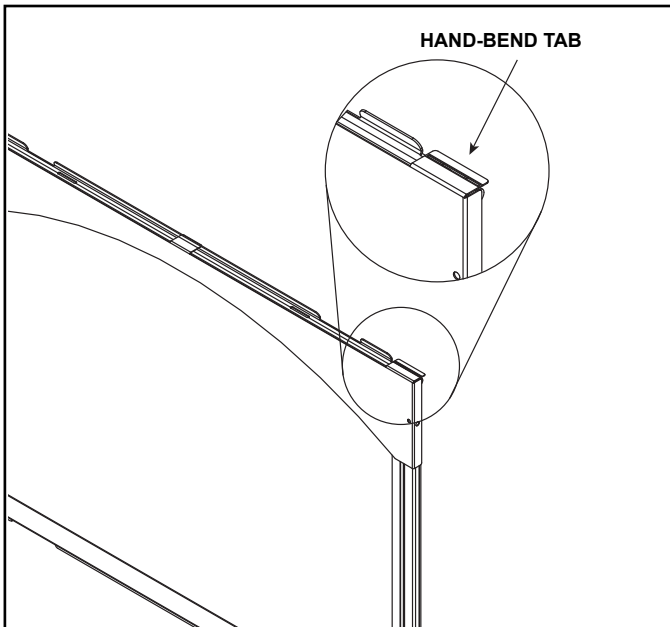

Figure 9. Hand-Bend Tab Location
9. Locate the hand-band tabs on both sides of the vanity panel. See Figure 9.